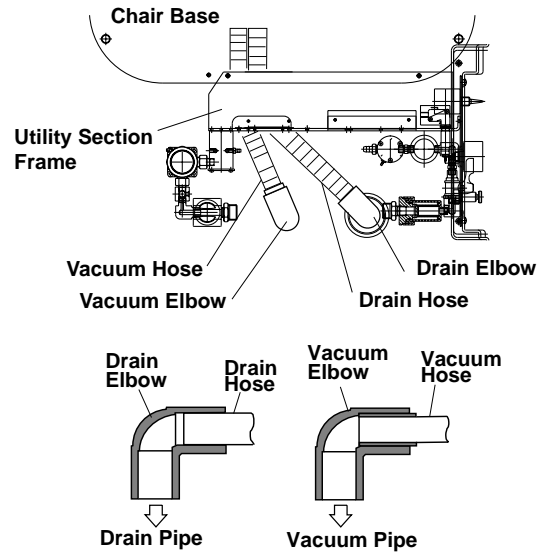

Fig.3-6-1 Drain Hose and Vacuum Hose Connection
(1) Drain Hose and Vacuum Hose Connection (Fig.3-6-1)